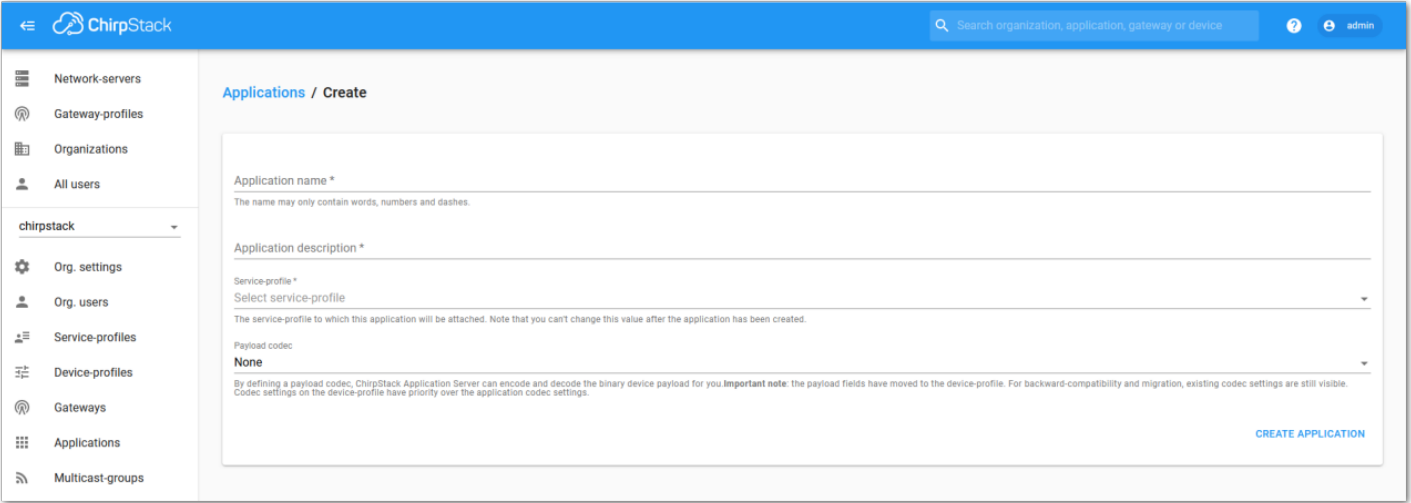
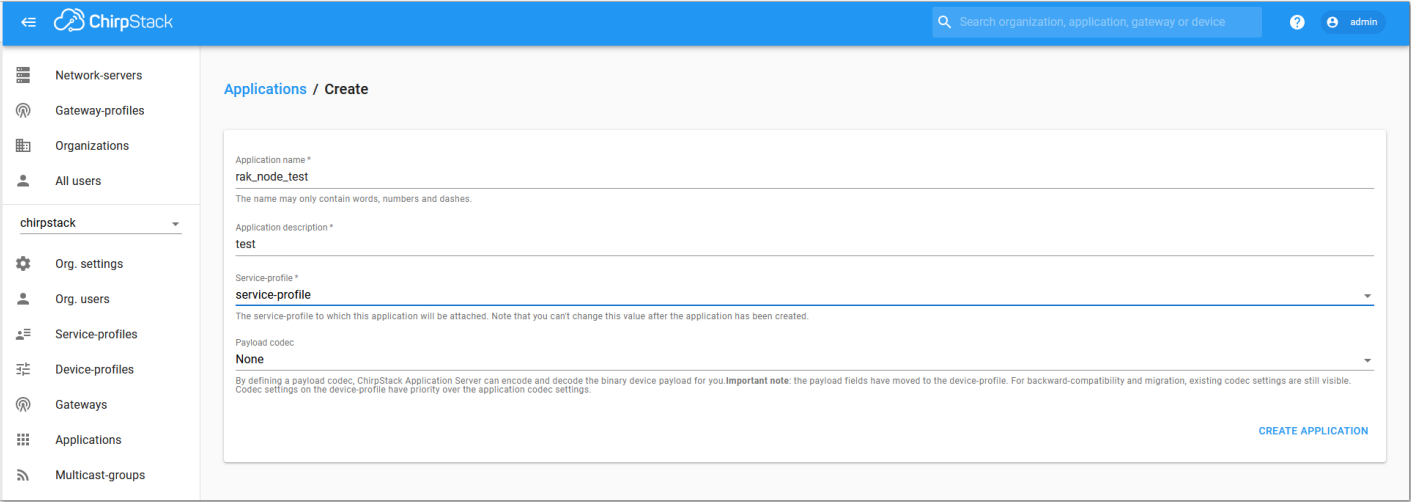

Figure 198: Creating a New Application
Figure 199: Filling Parameters of an Application
3. By default, you should create a new application, although you can reuse the existing ones. For this setup, create a new Application by clicking on the “**CREATE**” button, and filling the required parameters, as shown in **Figure 198** and **Figure 199**.